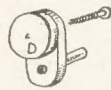

Fig. 4—Handle arrangements
a long round-head screw. To this pulley is glued the crank (E) made up of the piece shown in the pattern sheet with a piece of $\frac{3}{16}$ in. rod put through as a handle. Fig. 4 shows the complete unit ready to screw loosely to the upright.